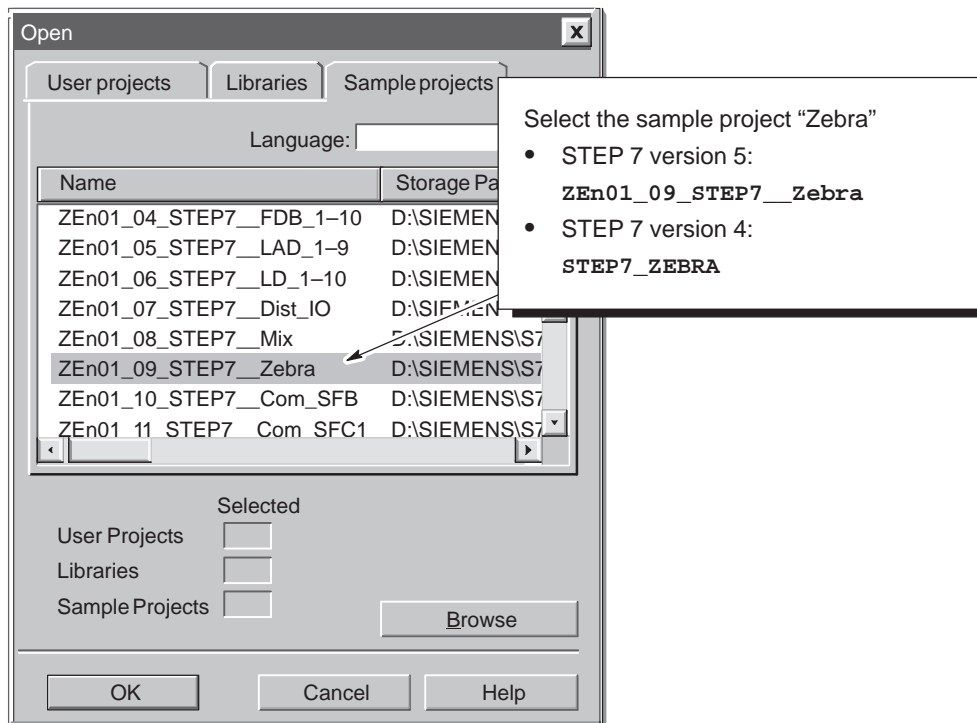

Figure 3-6 Opening the Sample Project (ZEn01_09_STEP7__Zebra)
4. As shown in Figure 3-6, scroll down the list of projects and select the “Zebra” project: